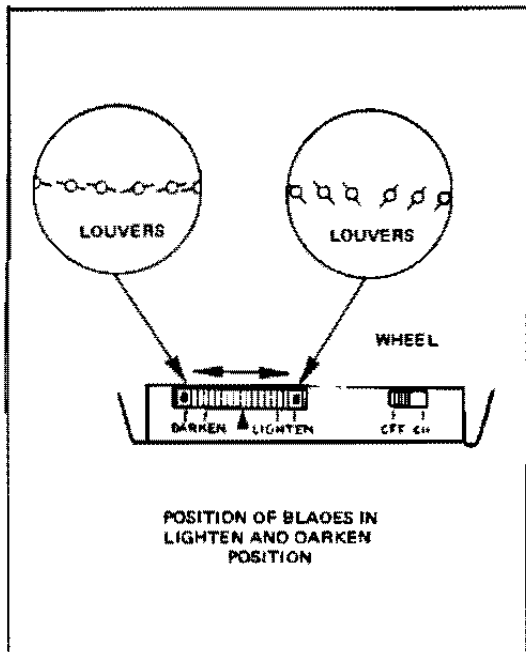

FIG. 4-24 REINSTALLING THE LOUVERS
louvers (Figure 4-24). If the louvers do not function properly, adjust as follows:
4. Turn the "Darken-Lighten" wheel and check the action of the louvers. Refer to Figure 4-24.